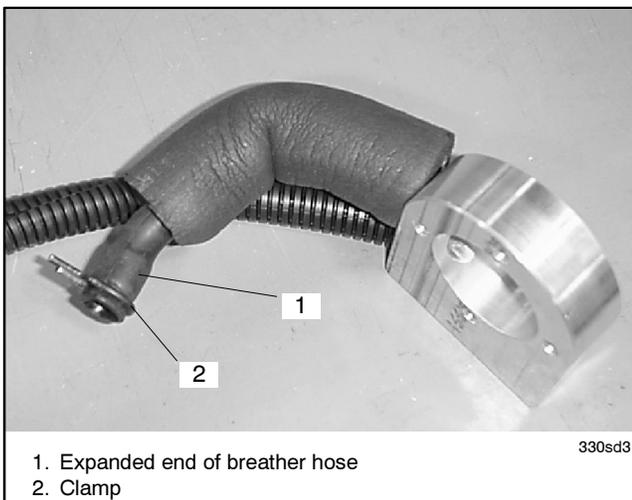

Figure 12 Breather Hose and Clamp
3. Slip the 50-mm (2-in.) length of breather hose onto the end of the breather tube. Insert the breather tube into the small end of the hose until the end of the breather tube reaches the expanded diameter of the hose. See Figure 12.